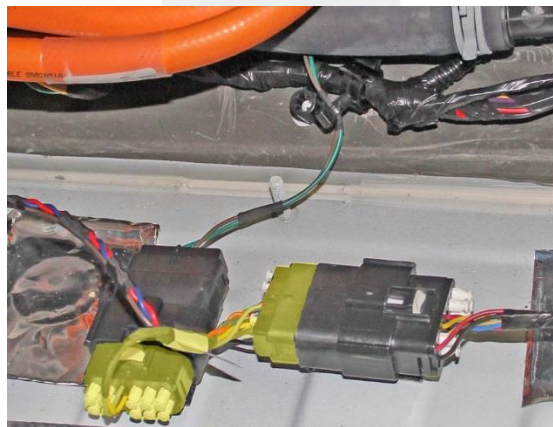

Figure 2 (Relay box harness highlighted)
4. Install the relay box harness between the 2 loose ends of the slave charger harness (Figure 2). Use adhesive Dual Lock strips to secure the connectors to the body.